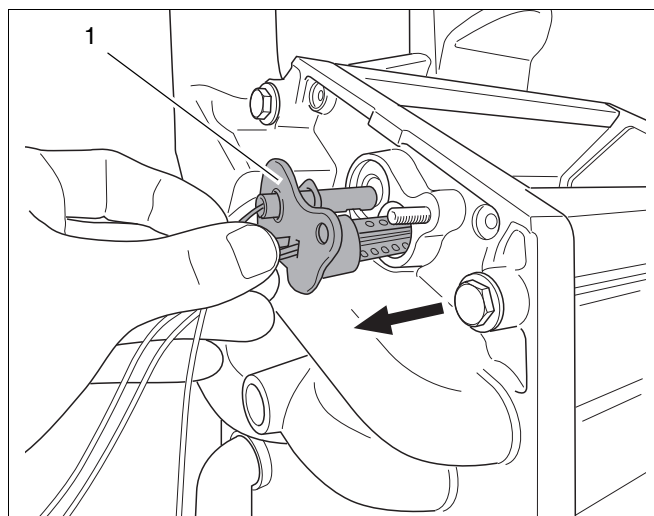

fig. 97 Removing the hot surface ignitor and the ionization electrode
- Remove both the hot surface ignitor and the ionization electrode by pulling them loose (see fig. 97, pos. 1).